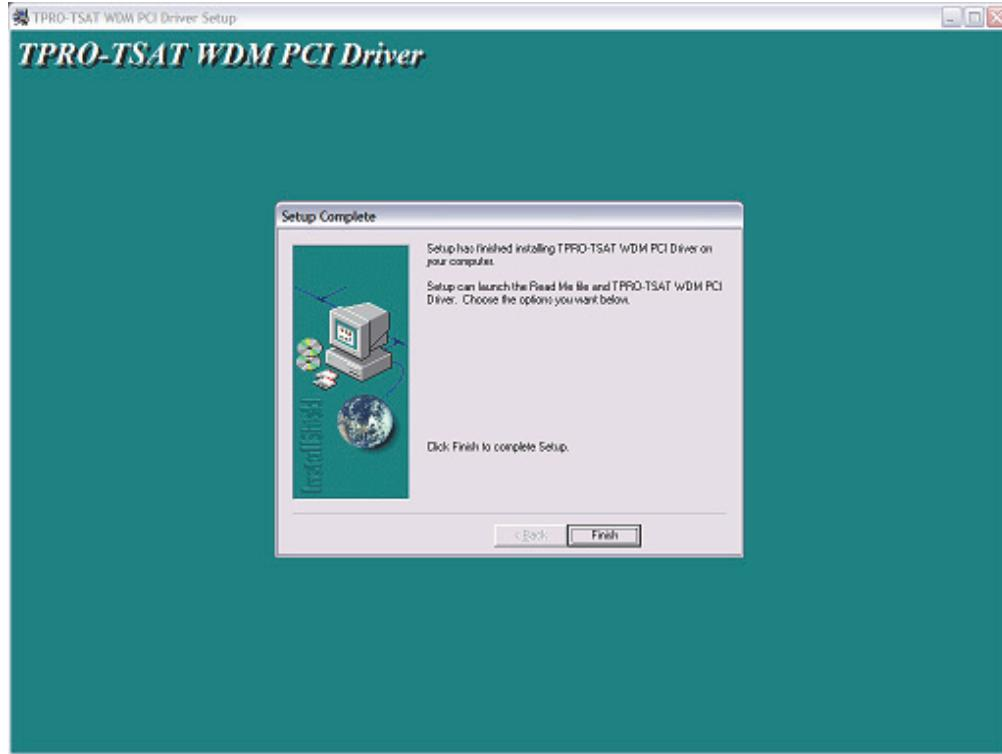

Figure 5-17. TPRO-TSAT WDM PCI Driver Installation Completion
4. Select **Finish**. See Figure 5-17.